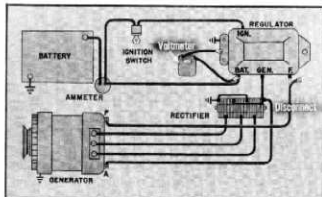

Fig. 41
8. If the above tests do not isolate trouble, connect voltmeter (fig. 41) and again take a read-